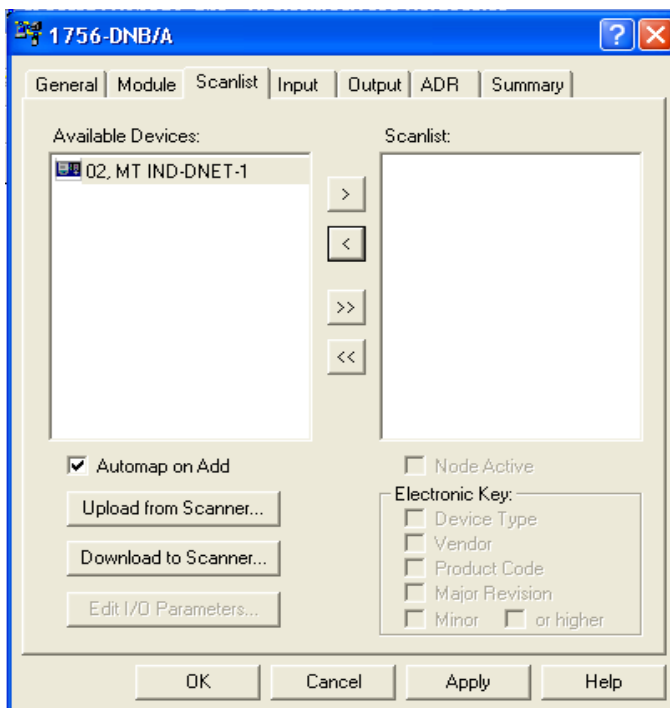

Figure 5-18: Scanner Properties Dialog: Scanlist Tab Showing
- Click the Scanlist tab in the properties dialog box. The view shown in Figure 5-18 will appear.